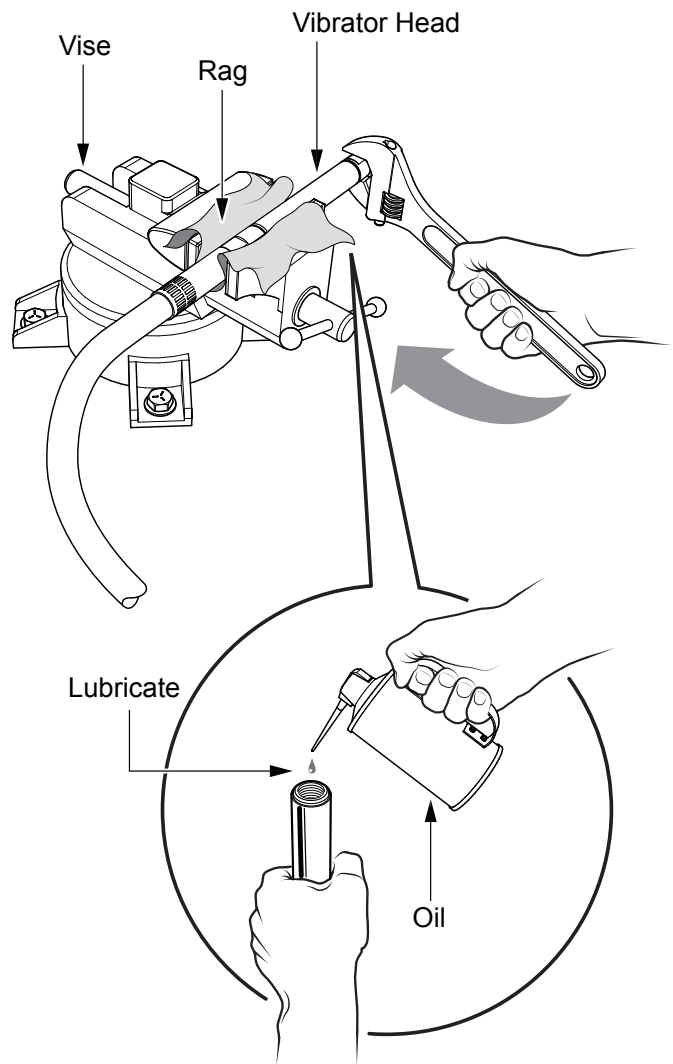

Figure 7. Adding Oil (Vibrator Head)
1. Using a wrench, remove vibrator head tip (Figure 7) from vibrator head body. Have a cloth handy to catch any spilled oil.